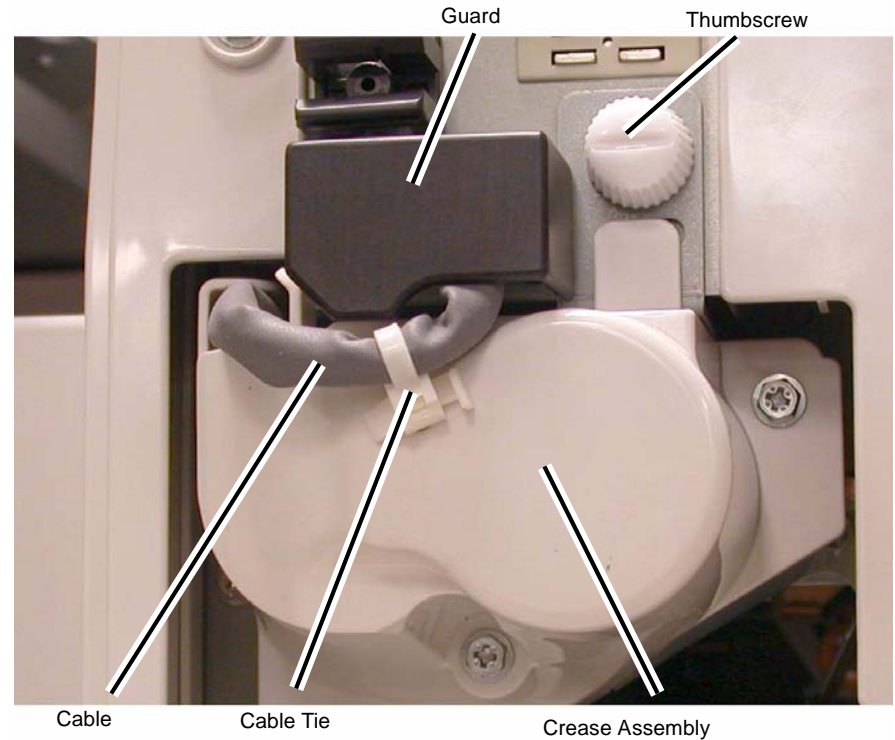

Figure 1 Removing the Crease Assembly
3. Remove the Crease Assembly (Figure 1).